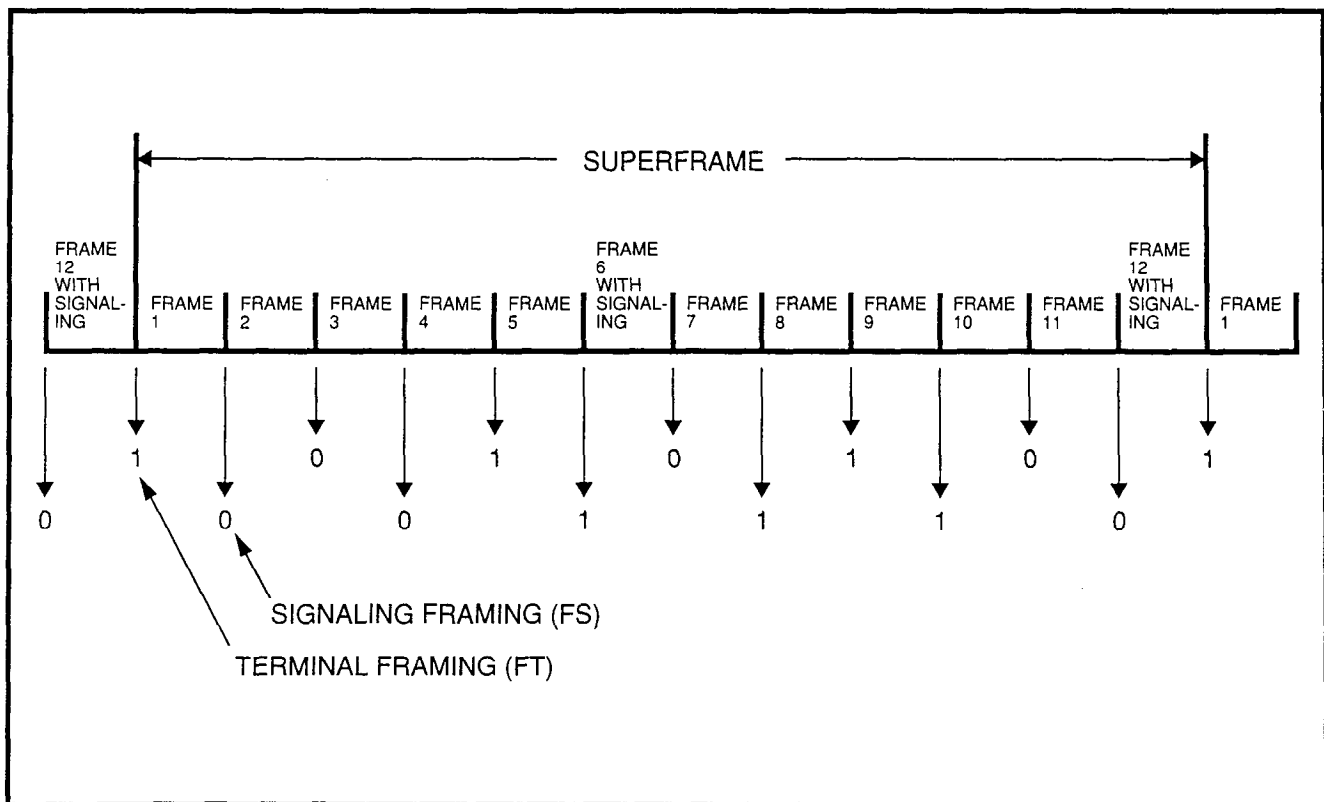

FIGURE 2—D4 FRAMING FORMAT
- The identification is done by verifying the Terminal Framing (FT) bit sequence "101010" (odd frames) and the Signaling Framing (FS) bit sequence "001110" (even frames). (See Figure 2.)